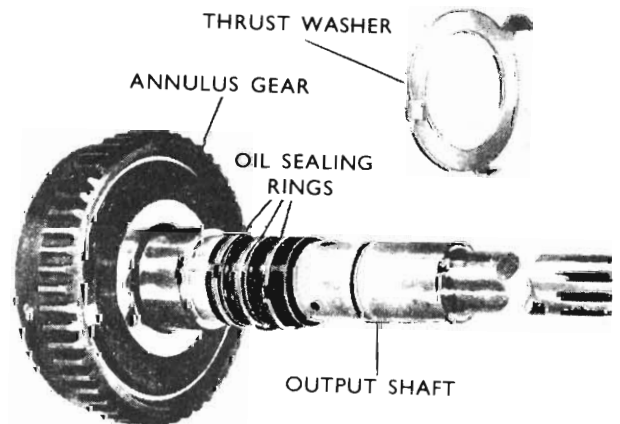

Fig. 45 - Output shaft assembly and thrust washer
(1) Position the output shaft seal ring gaps uppermost in grooves, where installed.
(2) Attach the output shaft tabbed thrust washer using petroleum jelly (Petrolatum-vaseline) with the tab in the projections, on the rear face of transmission case (tab outward) — refer Fig. 45.
(3) Carefully install the output shaft rearward through the rear bearing of transmission, taking care not to damage the bearing surface with the seal rings, where installed.